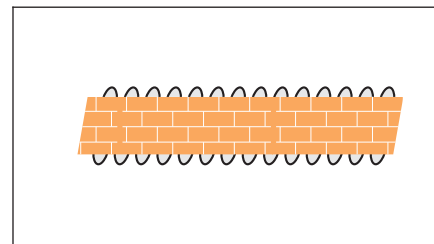

Figure 3
5. Lay the trimmed end of the braid along the row of lands to be cleaned. (See Figure 3.)